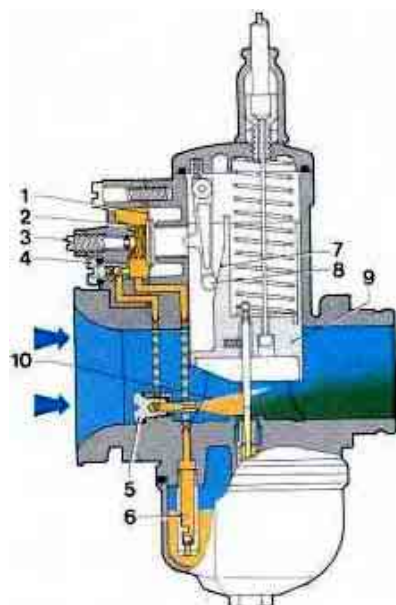

fig. 27
As shown in **figure 27**, on opening the throttle slide (9), lever (8) controlled by a special cam (7) cast into the front of the throttle slide, acts directly on the pump diaphragm (1), held out by the spring (2).